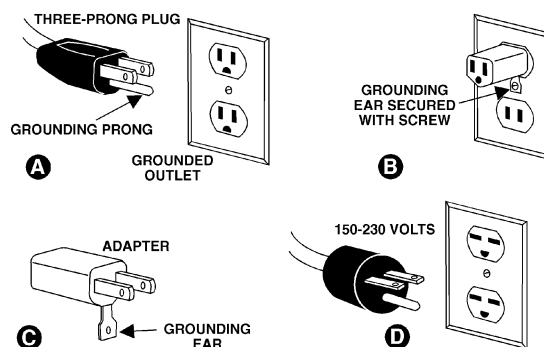
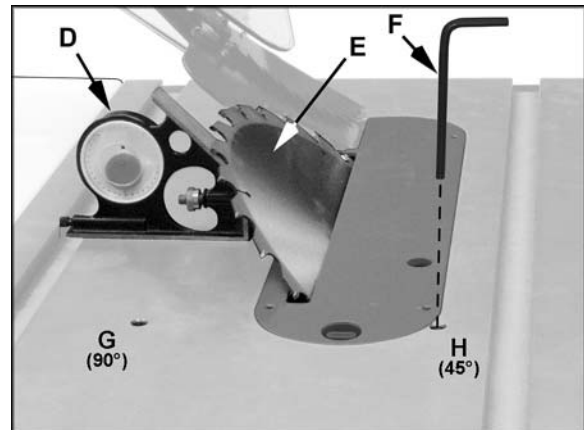

Figure 20
Figure 25
The JPS-10TS table saw is rated at 115/230V power, and is pre-wired for 115 volt. The table saw comes with a plug designed for use on a circuit with a *grounded outlet* that looks like the one pictured in **A**, Figure 20.
This tool is intended for use on a circuit that has an outlet that looks like the one illustrated in **A**, Figure 20. An adapter, shown in **B** and **C**, may be used to connect this plug to a 2-pole receptacle as shown in **B** if a properly grounded outlet is not available. The temporary adapter should be used only until a properly grounded outlet can be installed by a qualified electrician. *This adapter is not permitted in Canada.* The green-colored rigid ear, lug, and the like, extending from the adapter must be connected to a permanent ground such as a properly grounded outlet box.
This tool is intended for use on a circuit that has an outlet that looks like the one illustrated in **D**, Figure 20. The tool has a grounding plug that looks like the plug illustrated in **D**. Make sure the tool is connected to an outlet having the same configuration as the plug. No adapter is available or should be used with this tool. If the tool must be reconnected for use on a different type of electric circuit, the reconnection should be made by qualified service personnel; and after reconnection, the tool should comply with all local codes and ordinances.
9. Place a square (D, Figure 25) on the table and verify that blade (E, Figure 25) is at 45° to table. Make sure that the square is not touching a blade tooth.
10. Back out the 45° adjust setscrew (H, Figure 25) counter-clockwise one or two turns with 4mm hex key (F, Figure 20).
12. Tighten the 45° adjust setscrew (H) until it stops, but do not force.